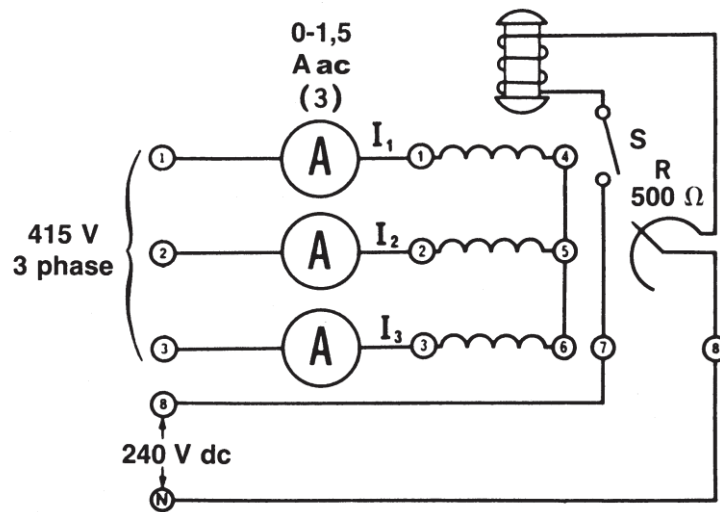
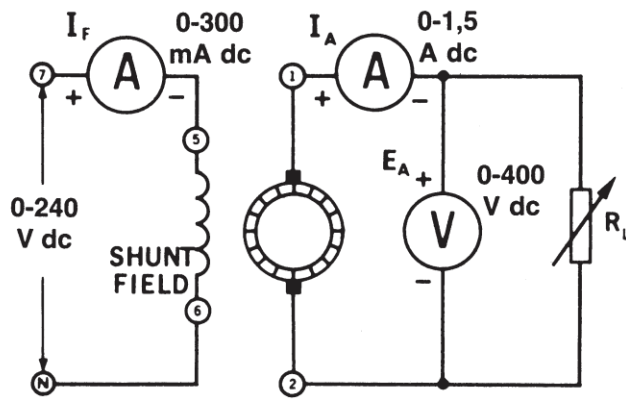

Figure 7-1.
Figure 7-3.
- G 1. Because of its constant running speed, the synchronous motor will be used to mechanically drive the DC generator. Using your Power Supply, AC Ammeter and Three-Phase Synchronous Motor/Generator, connect the circuit shown in Figure 7-1.
- G 9. Set the supply voltage phase sequence of the synchronous motor as shown in Figure 7-1. Using your Resistive Load, connect the circuit shown in Figure 7-3. Place the resistance switches so that the total load resistance is 480  $\Omega$ .